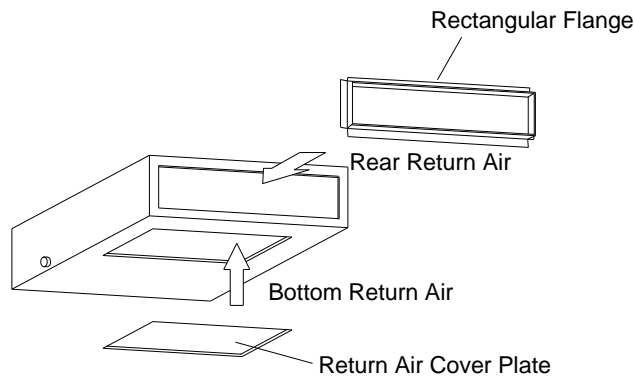

Figure 3-1-21
(2) The default installation location of the rectangular flange is at the back and the return air cover plate is at the bottom, as shown in Figure 3-1-21.